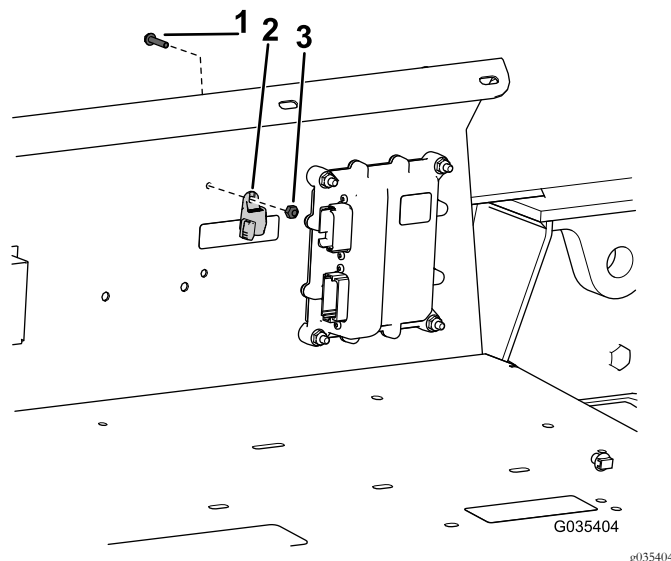

Figure 7
4. Remove the wire-harness cap (Figure 7) from the wire harness.
5. Mount the wire-harness cap on the fender guard with a screw (#10) and locknut as shown in Figure 7.